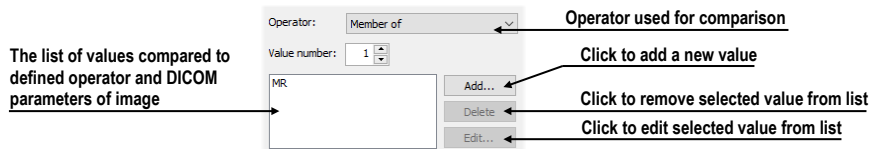

Figure 184 – DICOM criteria set dialog
4. Define the allowed values for the specified DICOM tag (see Figure 184):